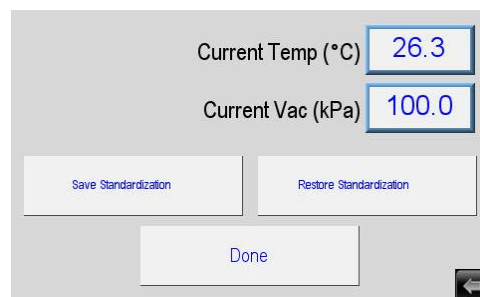

Figure D.9 - Current Vacuum Reading
9. The standardization of the VDO Touch vacuum transducer is now complete. The reading shown for “Current Vacuum (kPa)” at the bottom right corner of the screen (Figure D.9) should now match the reading shown by the calibrated pressure gauge within +/- 1.0 kPa.